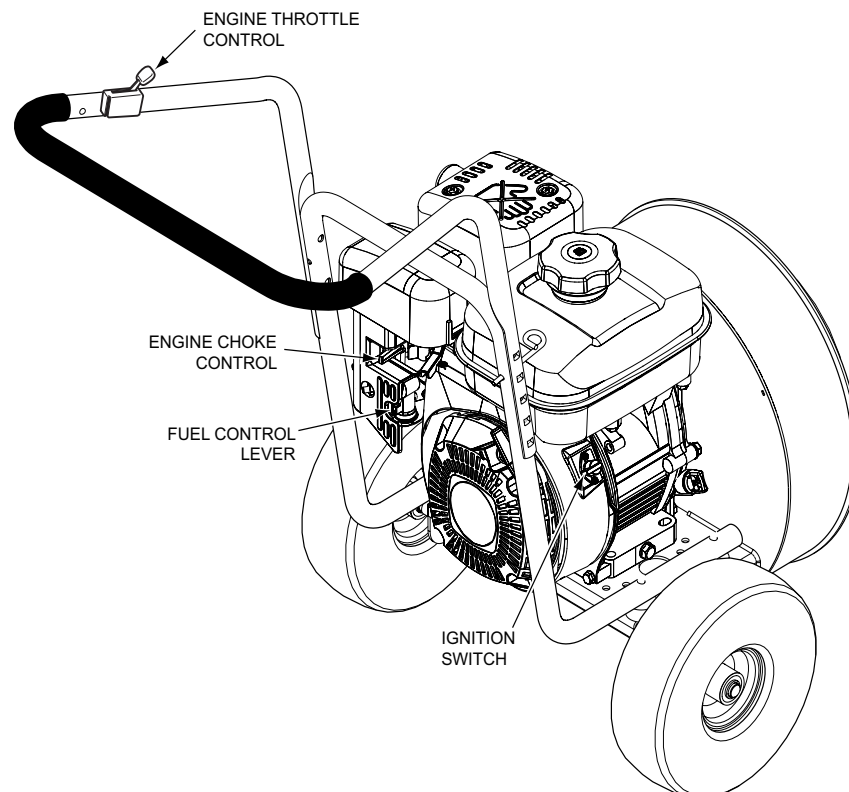

Figure 4-1. Controls and Instruments
1. **Ignition Switch (Figure 4-1).** The ignition switch is used to start the engine. Turn the knob to the on position before pulling the recoil starter.
2. **Engine Choke Control (Figure 4-1).** Used to start a cold engine.
3. **Engine Throttle Control (Figure 4-1).** Used to control the engine speed. Pushing the lever forward increases engine speed. Pulling the lever back decreases engine speed. Full back position is the IDLE position.
4. **Fuel Control Lever (Figure 4-1).** Used to control the fuel supply to the engine.
1. Be sure the fuel control lever, located on the left side of the engine, is completely open. See Figure 4-1.